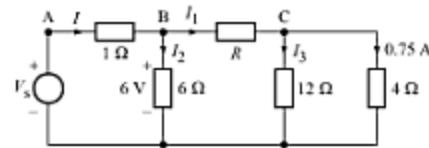

Fig. 2.45
19. In the circuit shown in Fig. 2.45, find (a) R and V_s , and (b) the power delivered by the source V_s . [Ans. (a) 3 Ω and 8 V; (b) 16 W]